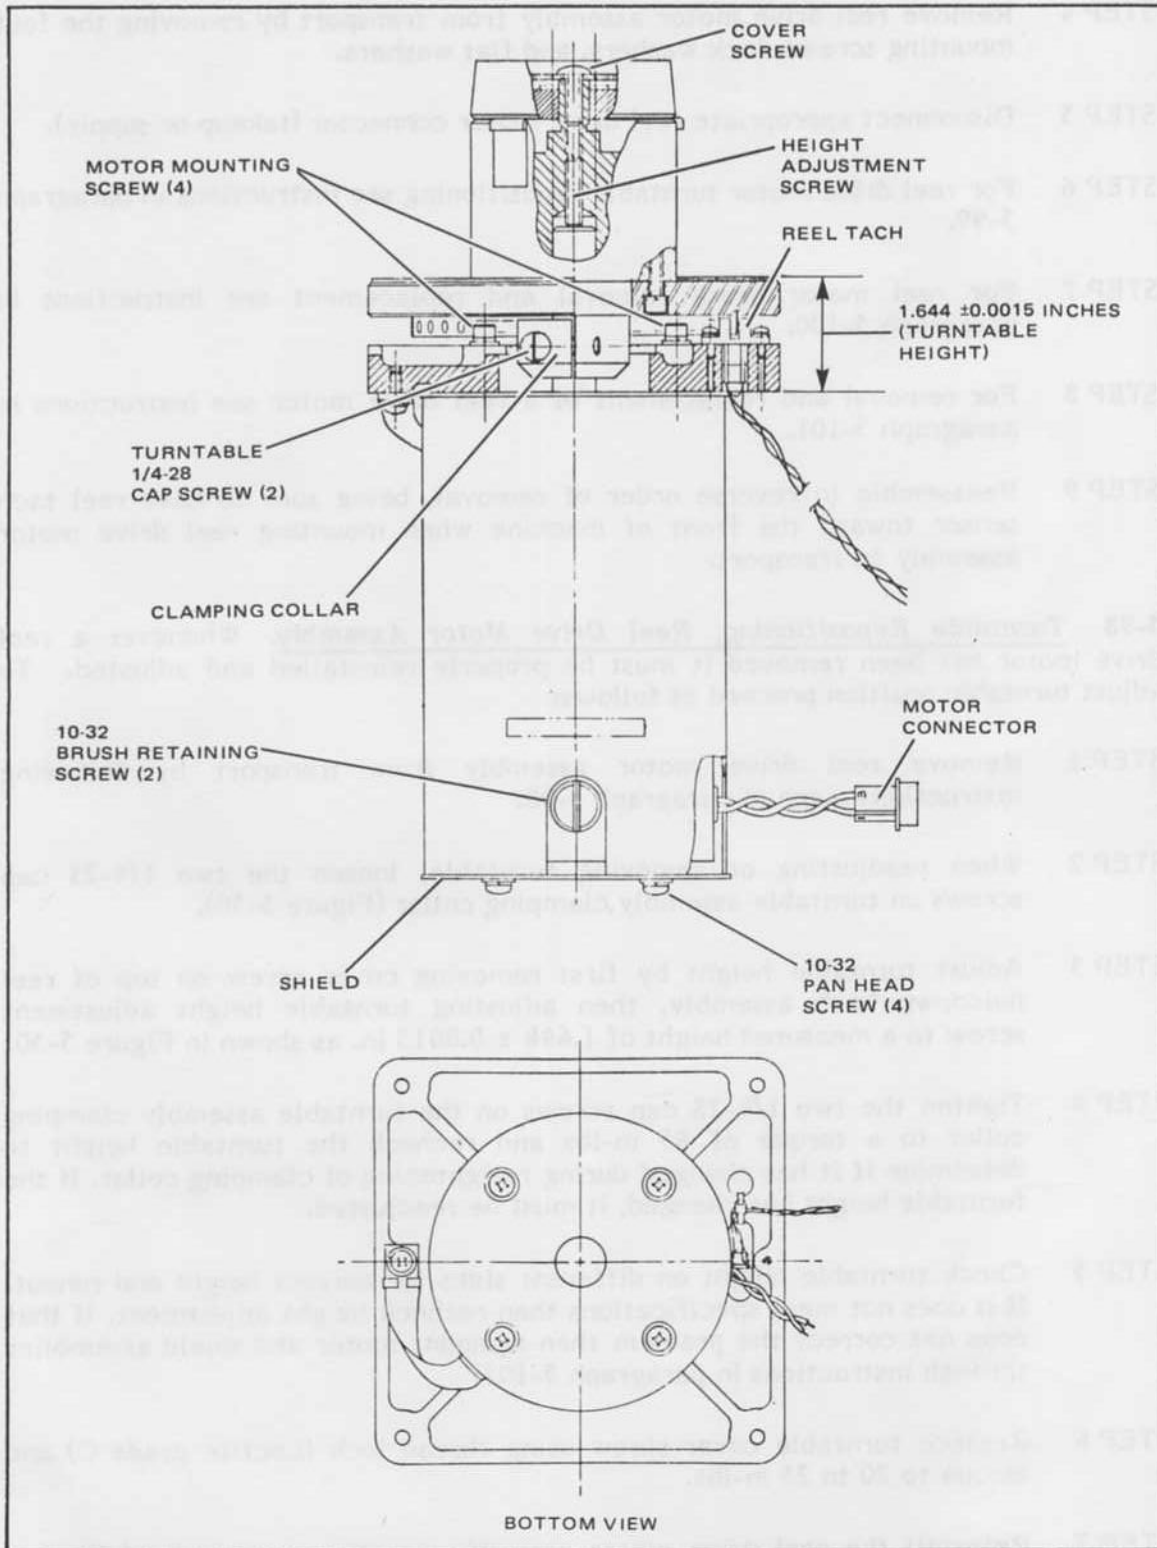

Figure 5-50. Reel Drive Motor Assembly
- STEP 2 When readjusting or removing turntable, loosen the two 1/4-28 cap screws on turntable assembly clamping collar (Figure 5-50).
- STEP 3 Adjust turntable height by first removing cover screw on top of reel holddown knob assembly, then adjusting turntable height adjustment screw to a measured height of 1.644 ± 0.0015 in. as shown in Figure 5-50.
- STEP 2 To remove a brush, use a large bladed screwdriver and unscrew brush retaining screw (Figure 5-50). The brush has a spring attached which maintains pressure against the motor commutator. Slide old brush out of retaining hole in motor.
- STEP 2 Remove and reinstall knob-turntable assembly by loosening two cap screws on turntable clamping collar (Figure 5-50).